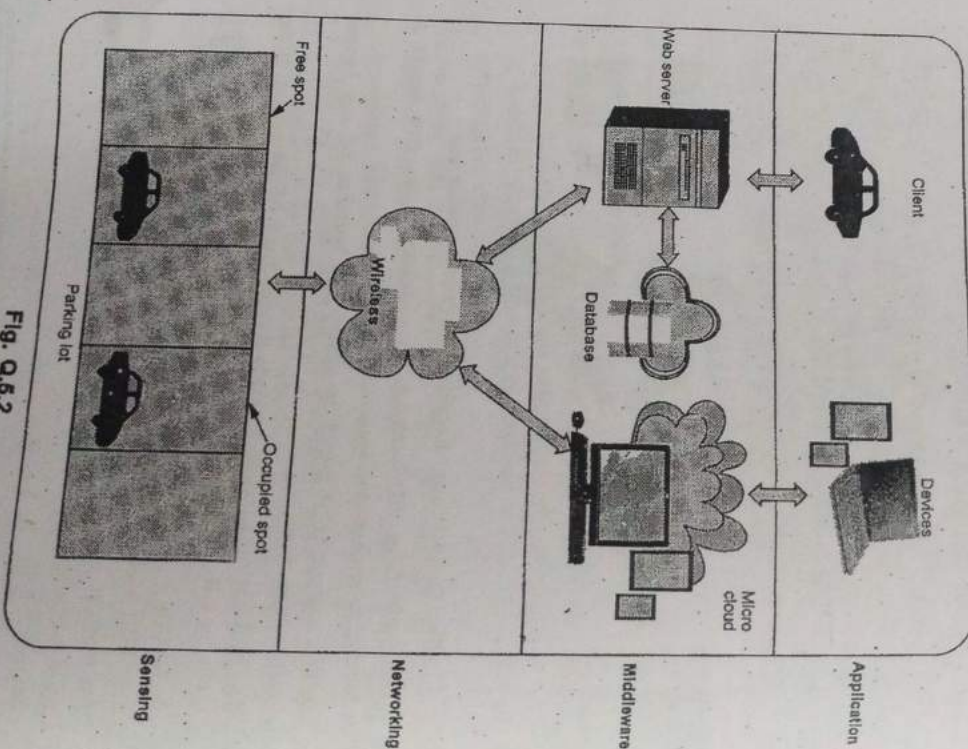

Fig. Q.5.2
- Fig. Q.5.2 includes four layers : A sensing, networking, middleware and application layer.